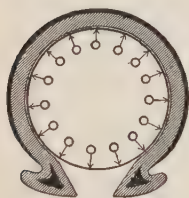

FIGURE 118.—The circles represent molecules bombarding the tube.
**77. Explanation and Limitations of Boyle's Law.** — The pressure of a gas in a container is not due to the weight of the gas, but to the fact that its molecules strike the walls of the containing vessel with the speed of a rifle bullet. A rapid stream of bullets from a machine gun will batter down an obstruction of considerable strength. In the automobile tire, millions of molecules are constantly striking every square inch of the wall of the inner tube (Figure 118), and have the same effect as that of a force of many pounds constantly applied.